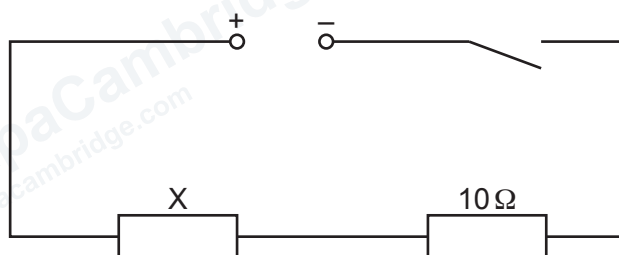

Figure 3.1
- (vi) Sufficient connecting leads to set up the circuit shown in Figure 3.1.
- 1 The supervisor must set up the circuit shown in Figure 3.1 for the candidates in advance of the examination.
The circuit must be restored to its original state, as shown in Figure 3.1, with the switch open and the 10 Ω resistor in the circuit with the additional resistors placed by the side of the circuit.